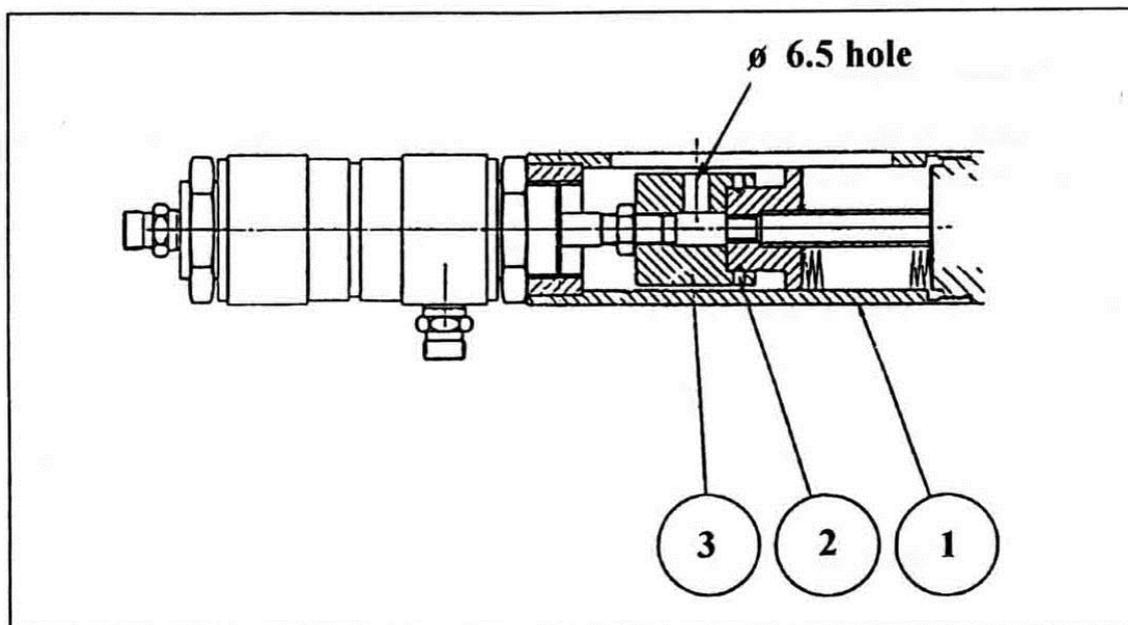

Figure 9 - Detail of Drive Mechanism
1. Refer to figure 9. Screw the cylinder case assembly to the flange unit.
2. Unscrew the case (1) part of a turn such that the slot aligns with the dia 6-5 hole beneath. Insert a peg approx 6 mm diameter into the 6.5 hole and hand tighten the case.
3. Use the peg to position the coupling so that the set screw (2) (adjacent to the peg) is positioned over the "V" groove beneath and tighten the set screw. Remove the peg.
4. Unscrew the case (1) part of a turn so that one of the three remaining set screws (2) can be accessed through the slot. Tighten the set screw (2) and repeat this procedure for the two remaining screws (2).
5. Hand tighten the case (1), noting that the dia 6.5 mm hole should align with the case slot.